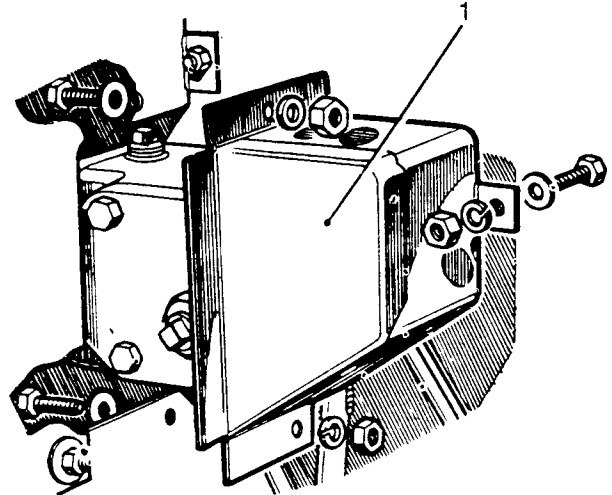

Fig L4.9
- (12) Refer to Fig L4.9. Remove the steering unit box (1) from the wheel arch.